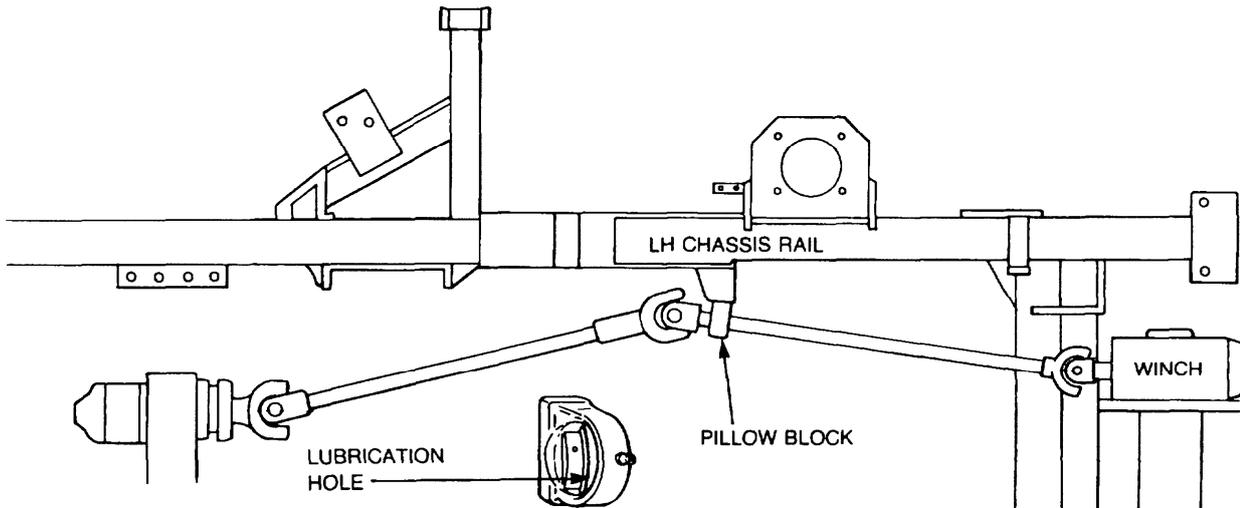

Figure 240 Winch Driveline
- d. Remove the winch driveline from the vehicle (Figures 240 and 241).
- a. Position the winch driveline over the cross-member and steering damper (Figures 240 and 241).
- a. Secure the pillow block in a vice and insert the new bearing into the pillow block, ensuring that the lubrication hole in the bearing outer aligns with the lubrication groove in the pillow block (Figure 240).